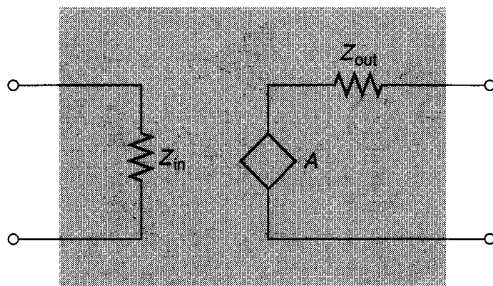

FIGURE 8.2 The general amplifier model.
**OBJECTIVE 1** ► All amplifiers have three fundamental properties: *gain*, *input impedance*, and *output impedance*. These properties can be combined to form a *general amplifier model*, like the one shown in Figure 8.2. Note that the diamond shape in the model is used (in this case) to represent the *gain* of the circuit. We'll modify this symbol slightly after we discuss the concept of gain.
Figure 8.2 showed a general model for a voltage amplifier. Now that we have defined gain, we need to modify the amplifier model, as shown in Figure 8.4a. Note that the diamond shape is actually used to represent  $v_{out}$  (as a *voltage source*). The value of this voltage source is given as  $A_v v_{in}$  to show that the output voltage is a function of the input voltage and the voltage gain of the circuit.